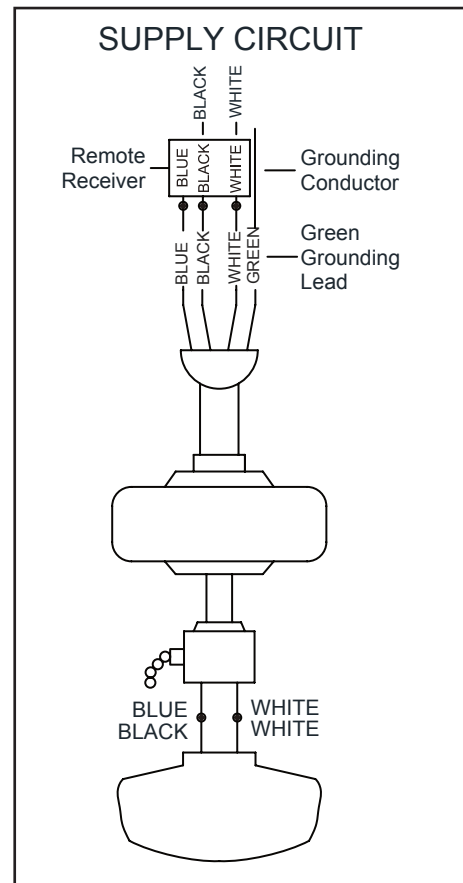

Figure 10
Follow the steps below to connect the fan to your household wiring. Use the wire connecting nuts supplied with your fan and supplied with remote control. Secure the connectors with electrical tape. Make sure there are no loose strands or connections. (Figure 10)
1. Connect the ground conductor of the 120v supply (this may be a bare wire or a wire with green colored insulation) to the green ground lead(s) of the fan (Figure 10).
2. Connect the fan motor white wire to the receiver white wire using a wire nut (Figure 10).
3. Connect the fan motor black wire to the receiver black wire using a wire nut (Figure 10).
4. Connect the fan motor blue wire to the receiver blue wire using a wire nut (Figure 10).
5. Connect the receiver black wire to the supply black (hot) wire using a wire nut (Figure 10).
6. Connect the receiver white wire to the supply white (neutral) wire using a wire nut (Figure 10).